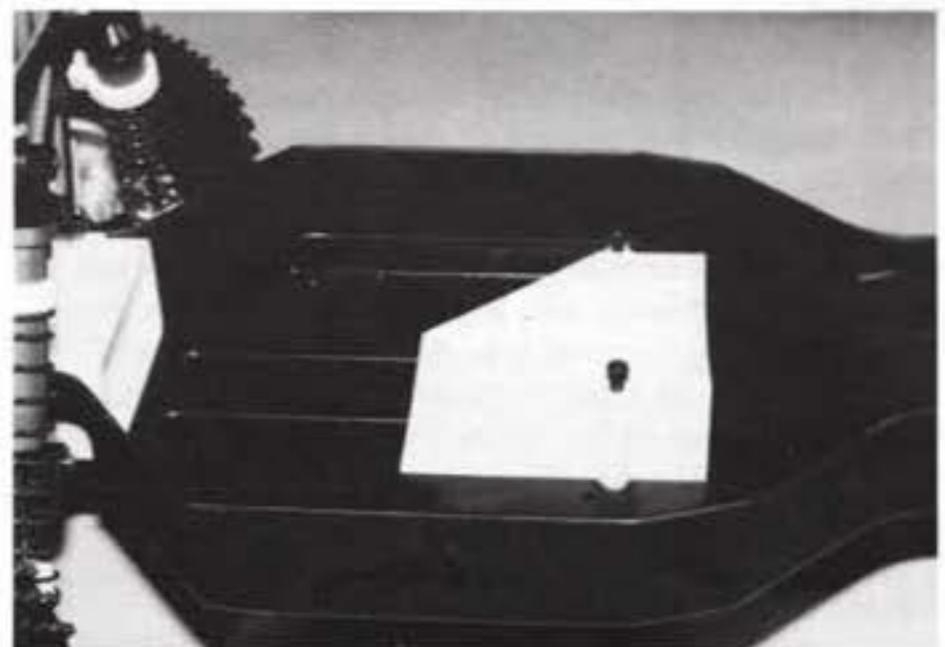
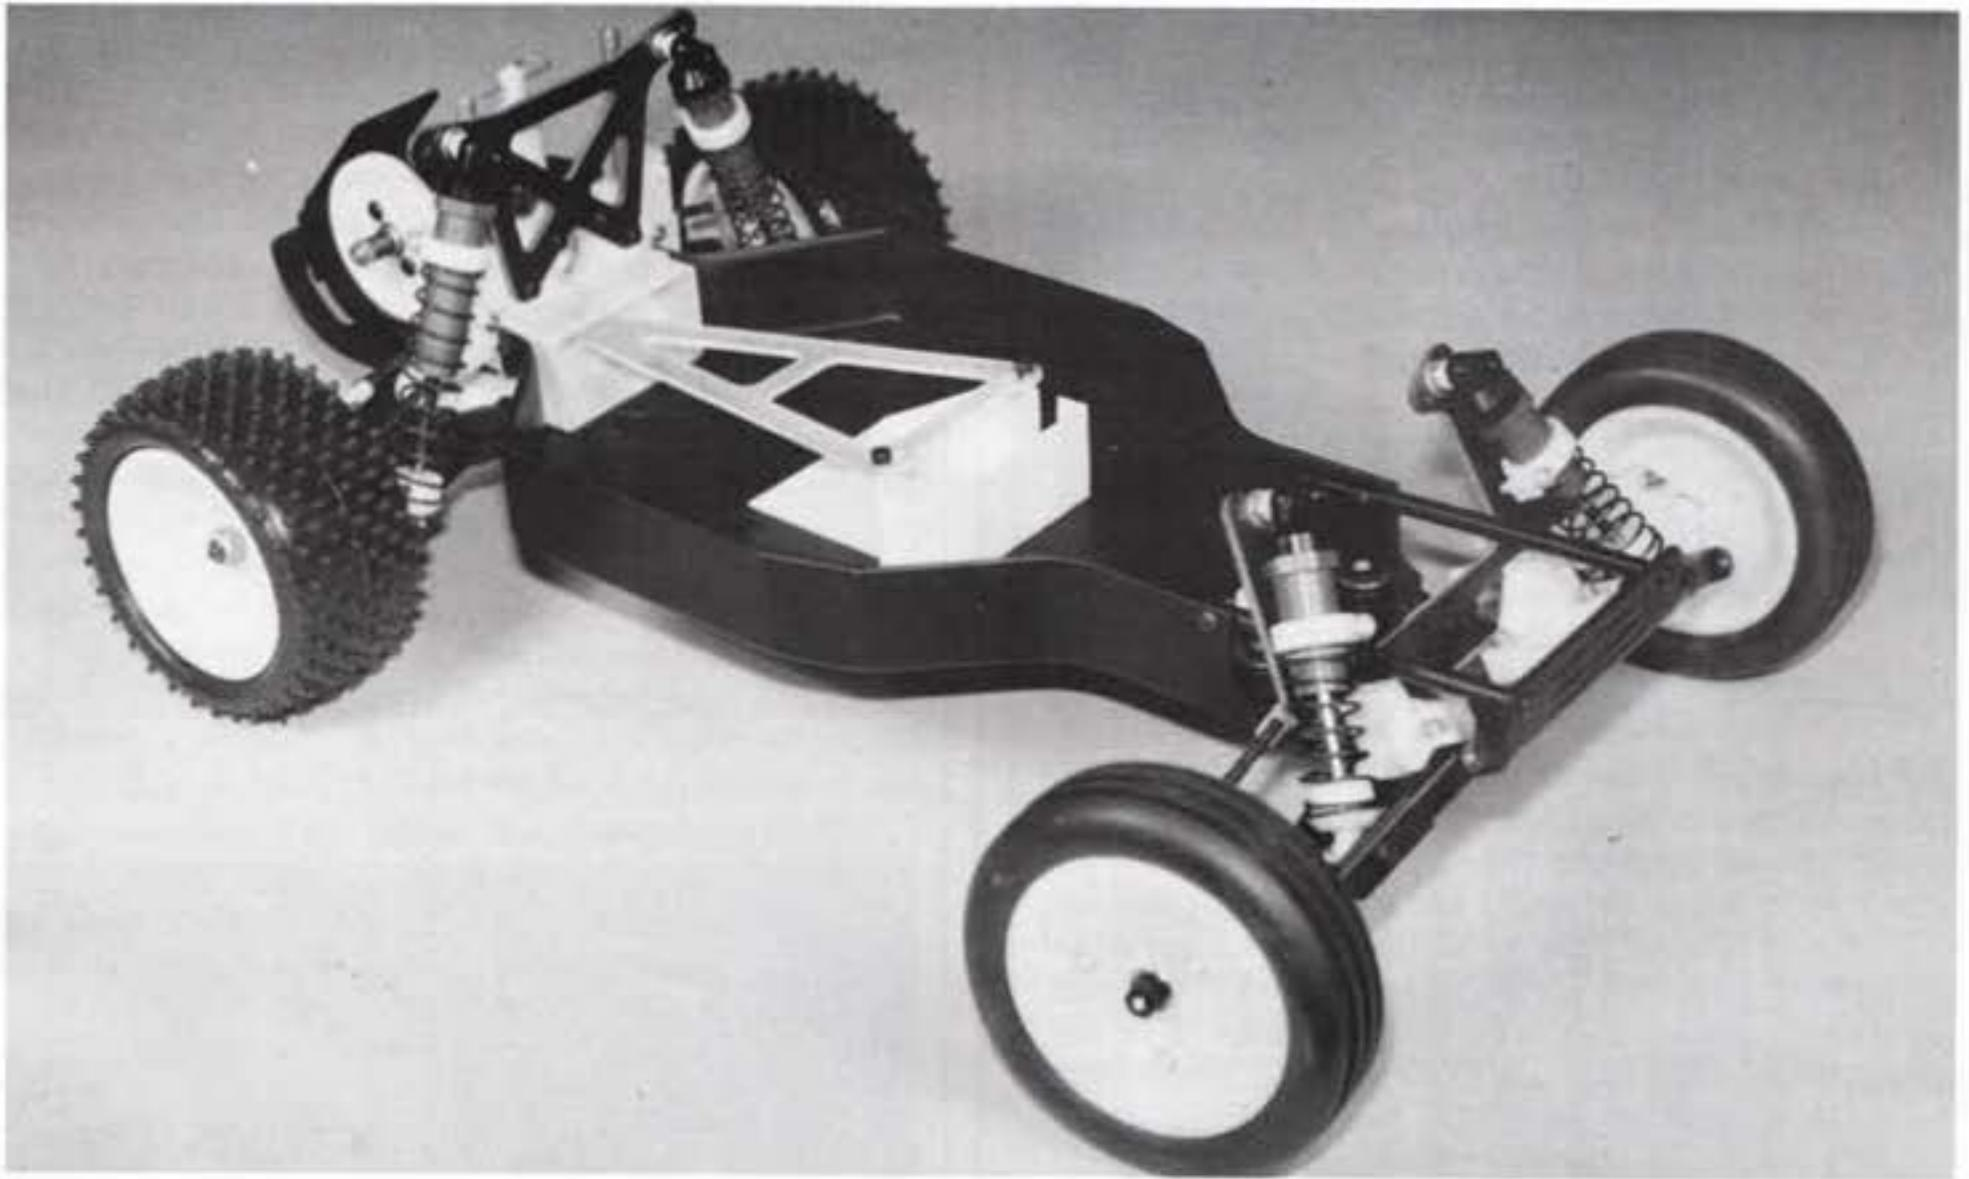

Fig. 150
Fig. 151
□ **Figs. 149, 150 & 151** In bag #6-7 you will find the #6334 nylon battery cup and two #6922 4-40 x 1/2" FHSScrews. Use the two #6922 FHSScrews to fasten the battery cup to the chassis as in fig. 150.
Now get the two #6924 4-40 x 3/8" SHCScrews and the #6339 fiberglass battery hold-down strap from the bag. Thread the two #6924 SHCScrews into the two holes on top of the battery cup as shown in fig. 150. To install the battery strap (after you have installed the battery pack), slide the rear end of the strap into the battery slot in the rear bulk-head. On the opposite end of the strap, place one side over the screw of the battery cup. Slide the strap to the side so the head of the screw is over the smaller section of the key hole slot. While holding this end tight, you will need to flex the other side of the battery cup until the second screw lines up with its hole in the battery strap. Push the strap down over the screw head and then release the pressure on the battery cup. Your batteries would now be locked in; you just reverse the steps to remove the strap. Your completed rolling chassis will now look like fig. 151.